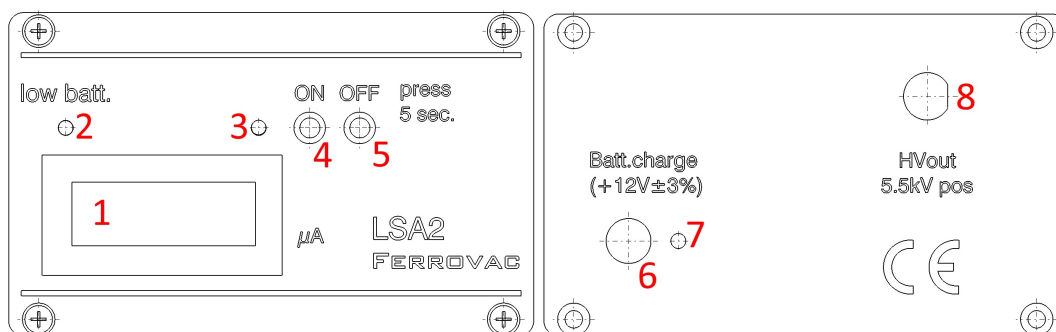

Figure 3: LSA2 front (left) and back (right) view.
The LSA2 controller front and rear panel controls are shown in Fig. 3.
In Fig. 3:
- Connect the cable of the power adapter to the LSA power input socket # 6 in Fig. 3
The red LED # 3 in Fig. 3 should light up when the power adapter is connected.
For starting the controller, press and hold the controller power ON switch (Fig. 3) for 5 seconds. At the same time the status LED (# 3) should light up.
When the controller detects a low battery voltage it will begin to beep incessantly and the red LED (# 2 in Fig. 3) turns on. The remaining battery power lasts for about 3 h.
When the controller detects a low battery voltage it will begin to beep incessantly and the red LED (# 2 in Fig. 3) turns on.